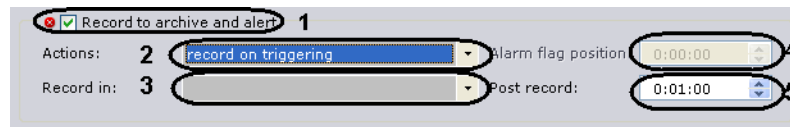

Fig. 6.5—28 Configuring recording to archive and initiation of an alert
- From the **Actions** list (see Fig. 6.5—28, 2), select the desired action to be taken when the detector is triggered: